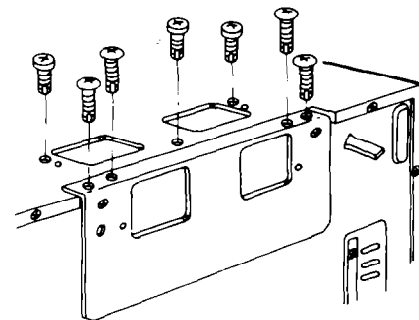

Figure 10
6. Secure, using remaining 7 screws (Fig. 10).
6. Secure using remaining 7 screws (Fig. 10 pg. 12).